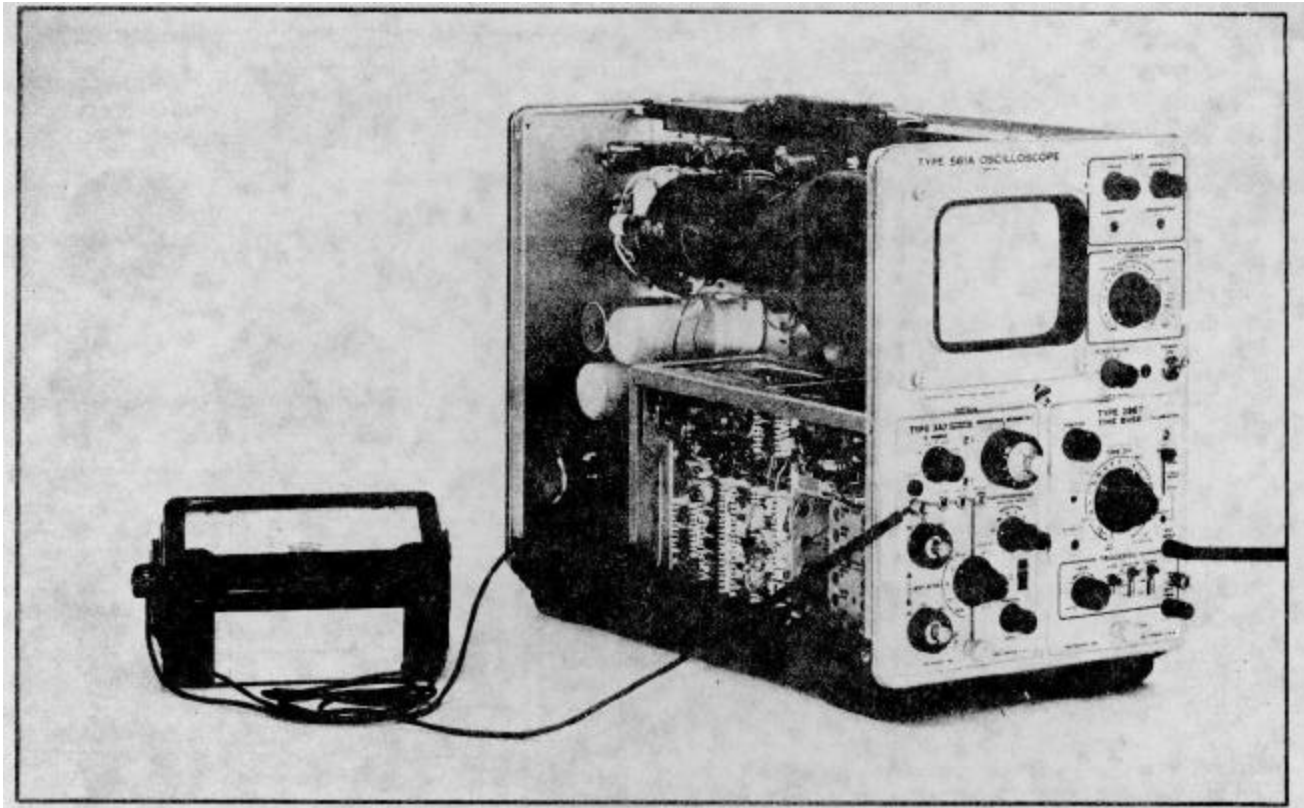
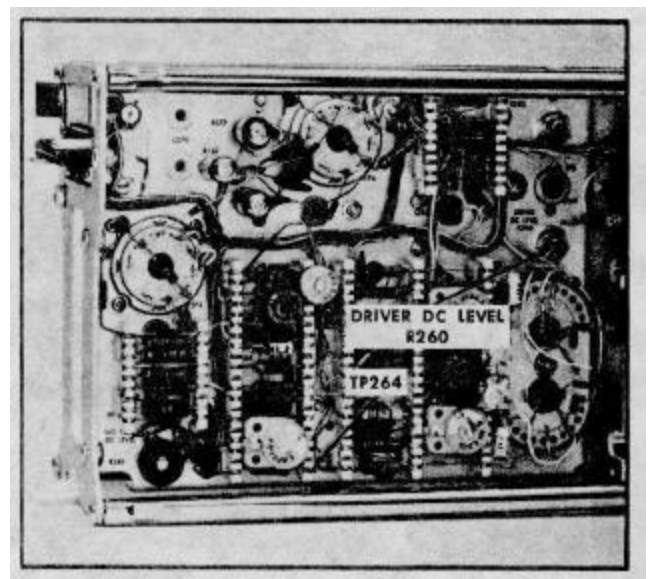
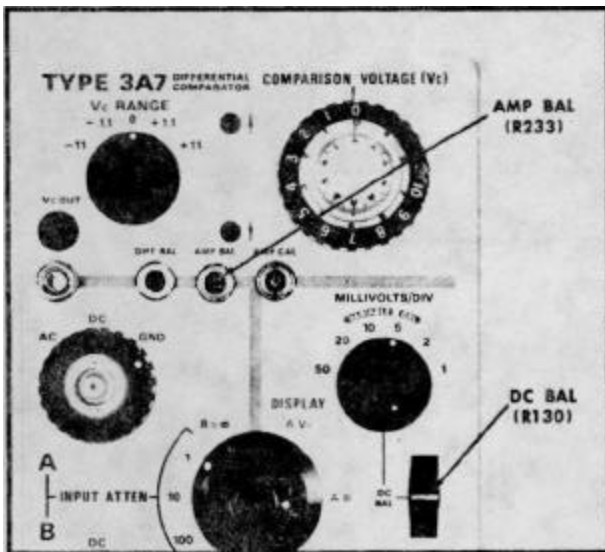
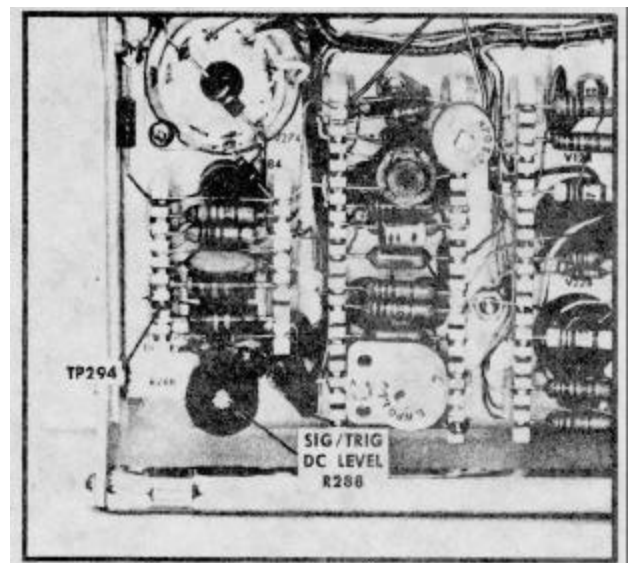

Fig. 5-6. Setup at completion of step 2a.
Fig. 5-7. Step 2 test point and adjustment locations.
Fig. 5-8. Steps 3 and 4 adjustment locations.
Fig. 5-10. Step 6 test point and adjustment locations.
**2. Adjust DRIVER DC LEVEL R260** ❶
a. Connect a dc voltmeter between TP264 and ground. Fig. 5-6 shows the complete setup and Fig. 5-7 shows the test point location.
b. Adjust the DRIVER DC LEVEL control R260 (see Fig. 5-7) to obtain a reading of exactly +59 volts on the voltmeter.
**3. Adjust DC BAL R130** ❷
b. Adjust the DC BAL control (see Fig 5-8) so there is minimum trace shift as the VARIABLE (MILLIVOLTS/DIV) control is rotated back and forth.
**4. Adjust AMP BAL R233** ①
- c. Adjust the AMP BAL control R233 (see Fig. 5-8) so the position of the trace matches the position noted in step 4a. To check on the accuracy of the adjustment, set the MILLIVOLTS/DIV switch to its various positions. There should be no trace shift.
**6. Adjust SIG/TRIG DC LEVEL R288** ①
- a. Connect a dc voltmeter between TP294 (see Fig. 5-10) and ground. The setup is similar to that shown in Fig. 5-6.
- b. Adjust the SIG/TRIG DC LEVEL control R288 (see Fig. 5-10) to obtain a zero reading on the voltmeter. Due to slight dc drift, exact zero is difficult to obtain. So allow a tolerance of about  $\pm 0.1$  volt. Be sure the trace coincides with graticule center when adjusting the control. Use the POSITION control to keep the trace centered.